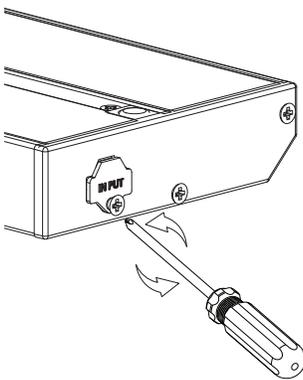

Figure 1
1. Remove the screws on the plastic receptacle cap that covers the INPUT receptacle in order to insert the power cord (Fig.1).